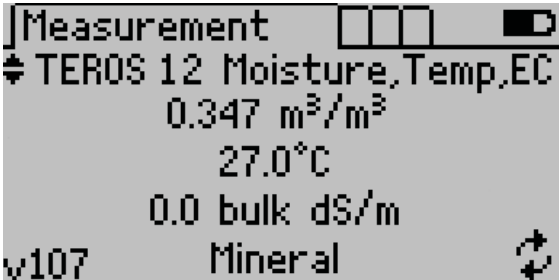

Figure 5 Measurement screen with live update mode activated
- 4. Press **ENTER** to engage the live update mode (Figure 5).